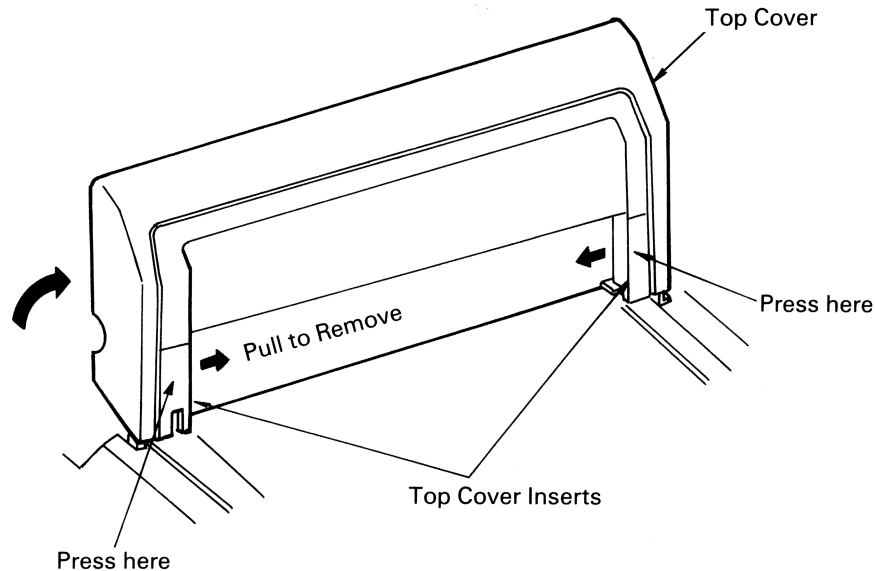

Figure 2
2. Remove both Top Cover Inserts by gently pulling them towards the center of the Printer. Press the center of the Inserts for easy removal. (See Figure 2.)